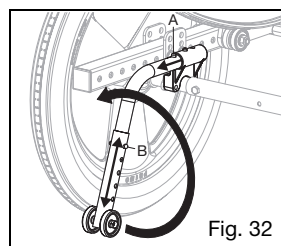

Fig. 32
- Depress buttons (Fig. 32:A) on anti-tips.
- Depress the buttons (Fig. 32:C) on anti-tips.
- Depress lower button (Fig. 32:B) on anti-tip.